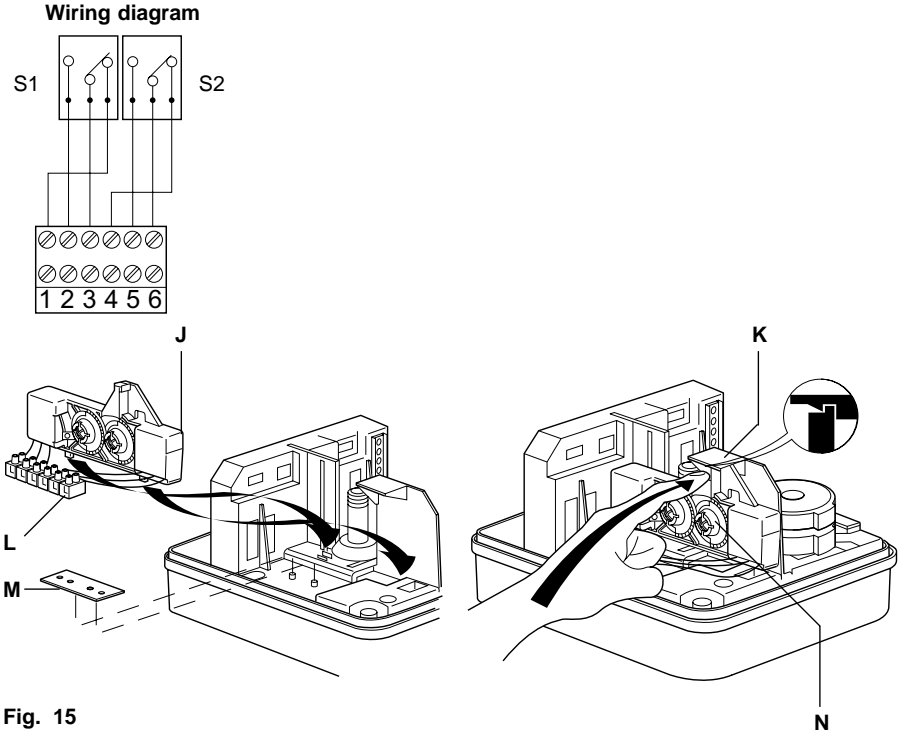

Fig. 15
1. Using the two lugs on the bottom of the switch assembly (J) locate it on the actuator base panel. See Fig. 15.
2. Press the top of the switch assembly to clip it underneath the base bracket (K).
3. A terminal block (L) and label (M) are also supplied and should be screwed to the base.
5. Connect the cables following the wiring diagram shown in Fig. 15. **Note:** The cables must be neatly retained to prevent them being damaged when fitting the lid or snagging on the switch assembly.
6. The switching positions are adjusted by loosening the switch cams (N) and repositioning them.